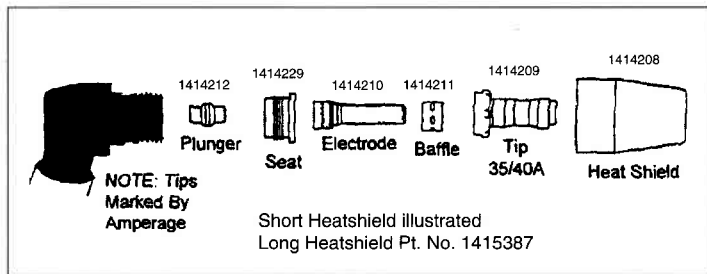

Fig 3. PT-50 Consumables
ASSEMBLING PT-50 TORCH CONSUMABLES - see Fig. 3
1. With the torch head facing up unscrew and remove the heatshield. Examine the heatshield, tip, swirl baffle and electrode, see Fig 3.